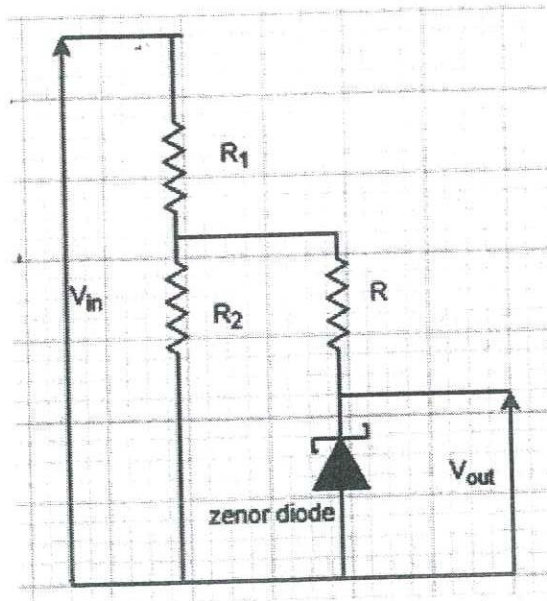

Figure Q4.1
- Q4. a) The circuit shown in Figure Q4.1 is a part of double-sided power supply circuit. The specifications of the circuit are as follows.